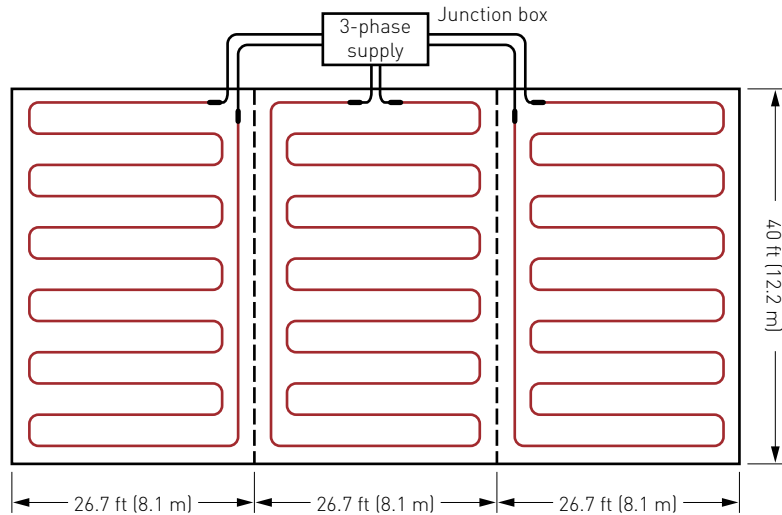

Fig. 18 Typical three-phase heating cable layout for heat loss replacement
A single heating cable may be sufficient for small floor areas. For large floor areas, it may be necessary to divide the area into two or more equal subsections (Fig. 19 on page 30). For a three-phase voltage supply, divide the total area into three equal subsections (Fig. 18 on page 27) or a multiple of three equal subsections when more than one circuit is necessary. If expansion joints will be used in the floor, divide the area so that the heating cables will not cross any expansion joints.
- Divide the total heated floor area into three equal subsections (Fig. 18) or a multiple of three equal subsections when more than one circuit is necessary.
Subsection area	3200 ft ² / 3 = 1067 ft ² (see Fig. 18) 297.4 m ² / 3 = 99.1 m ²